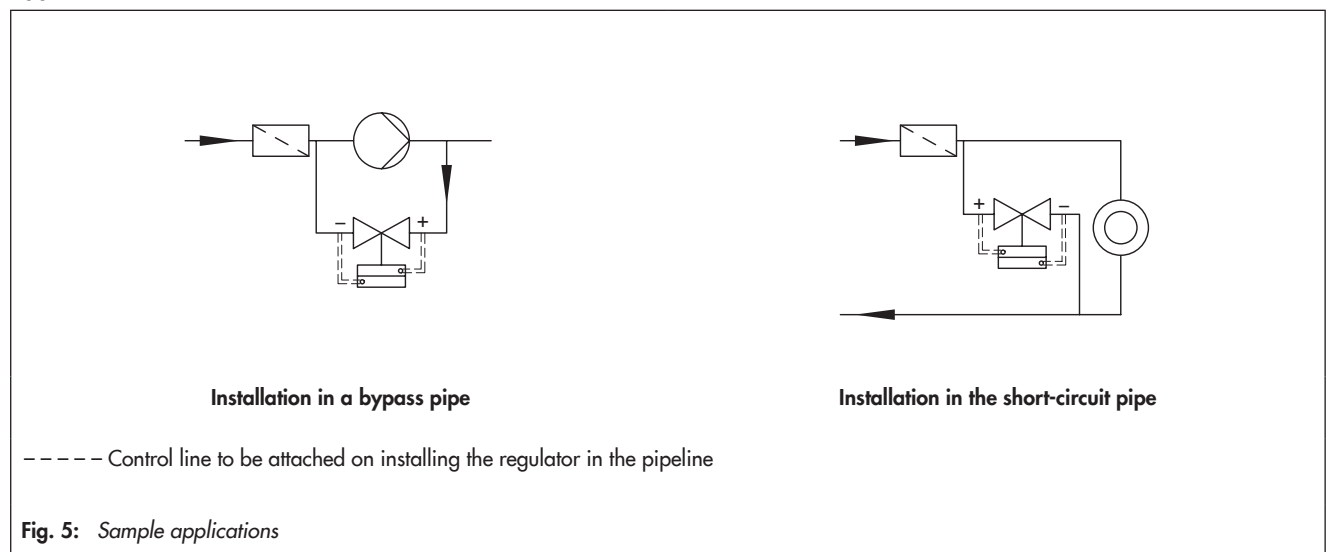

Fig. 5: Sample applications
**Differential pressure regulators** for installation in a bypass pipe or short-circuit pipe (see Fig. 5) · Flanged connections